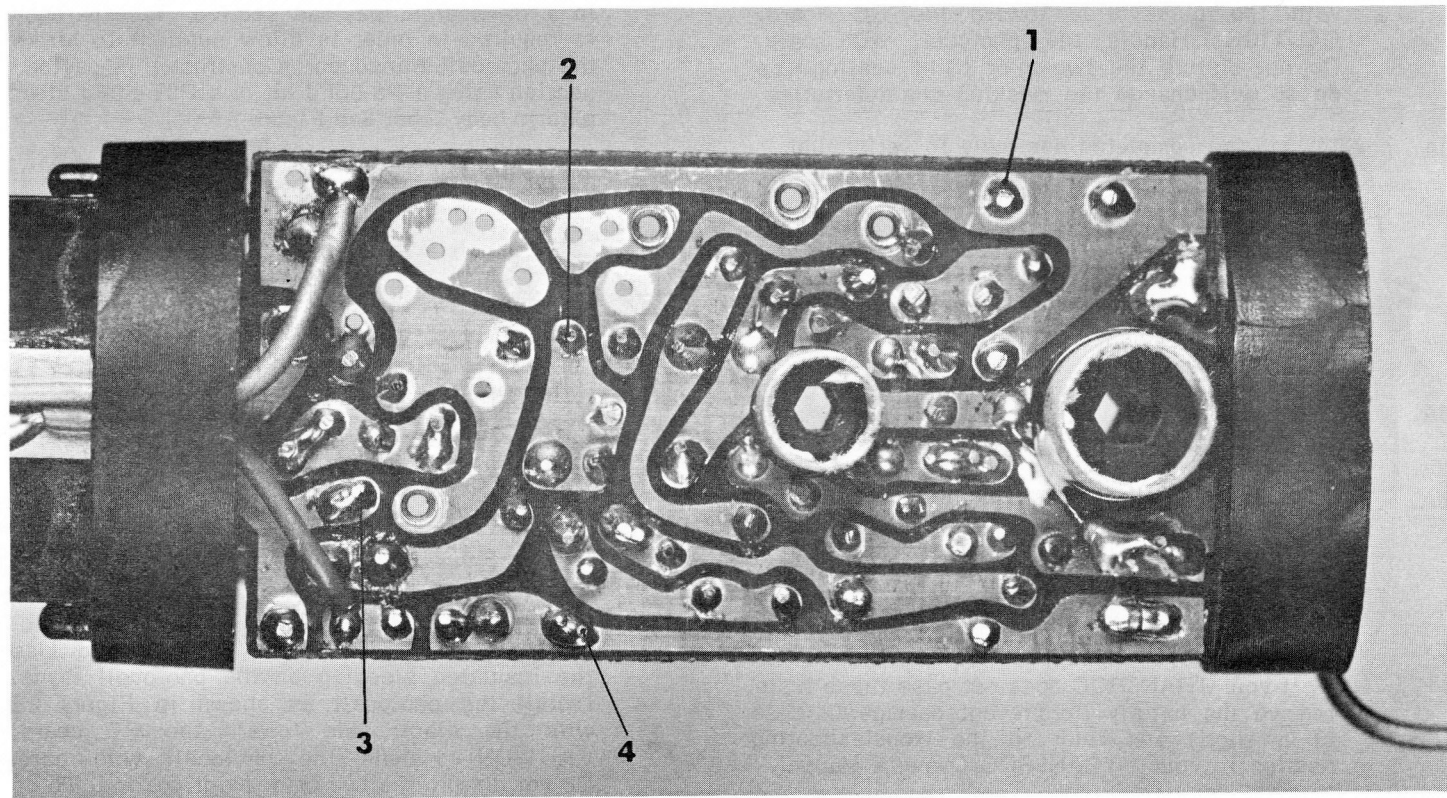

FIG. 3B BOTTOM VIEW "B" CONFIG. TRANSROC, SPIN-RATE MODE
- 6B. () Inspect the bottom of the PC board for poor solder joints, solder bridges, etc. It should look like Figure 3B.